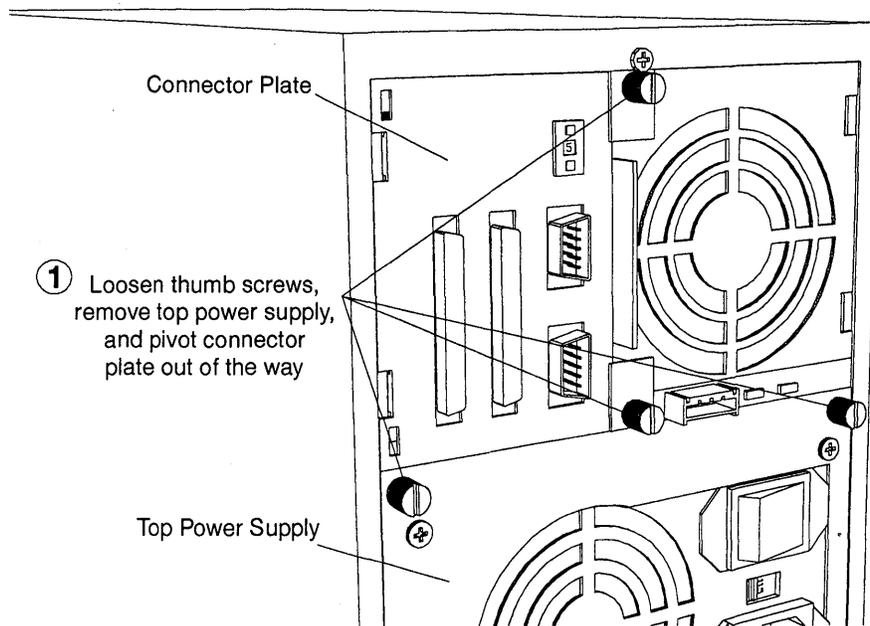

Figure 1-6: Battery bay is located behind connector plate
- 1 Loosen thumb screws holding the connector plate and top power supply in place. Remove the top power supply and pivot the connector plate out of the way to reveal the battery bay. See Figure 1-6.